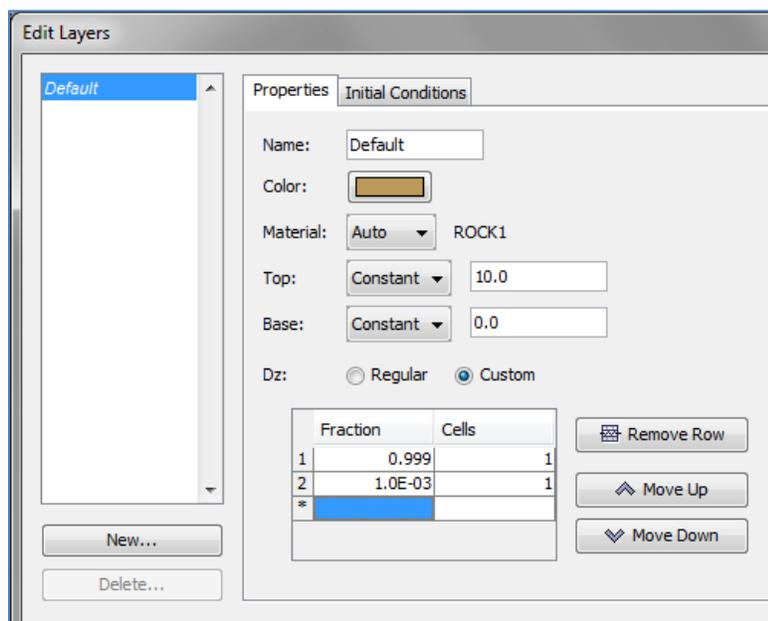

Figure 1: Input of cell sizes
4. In the first row **Fraction** box type *0.999* and in the **Cells** box type *1* (Figure 1)
5. In the second row **Fraction** box type *0.001* and in the **Cells** box type *1* (Figure 1)